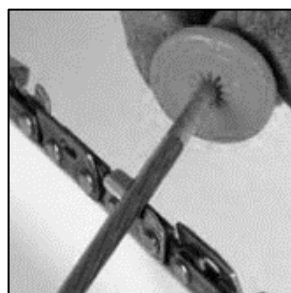

Fig.42
3. Place the file (not include) over the tooth at 30°. (Fig.42)